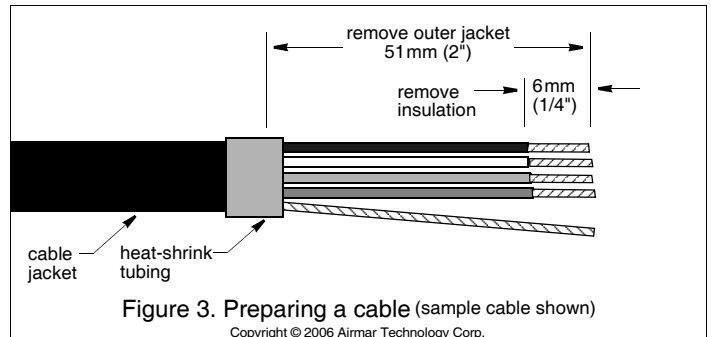

Figure 3. Preparing a cable (sample cable shown)
5. Strip 51 mm (2") of the outer jacket and foil shielding from the cut ends of both the sensor/instrument cable and the Data Converter cable (Figure 3).